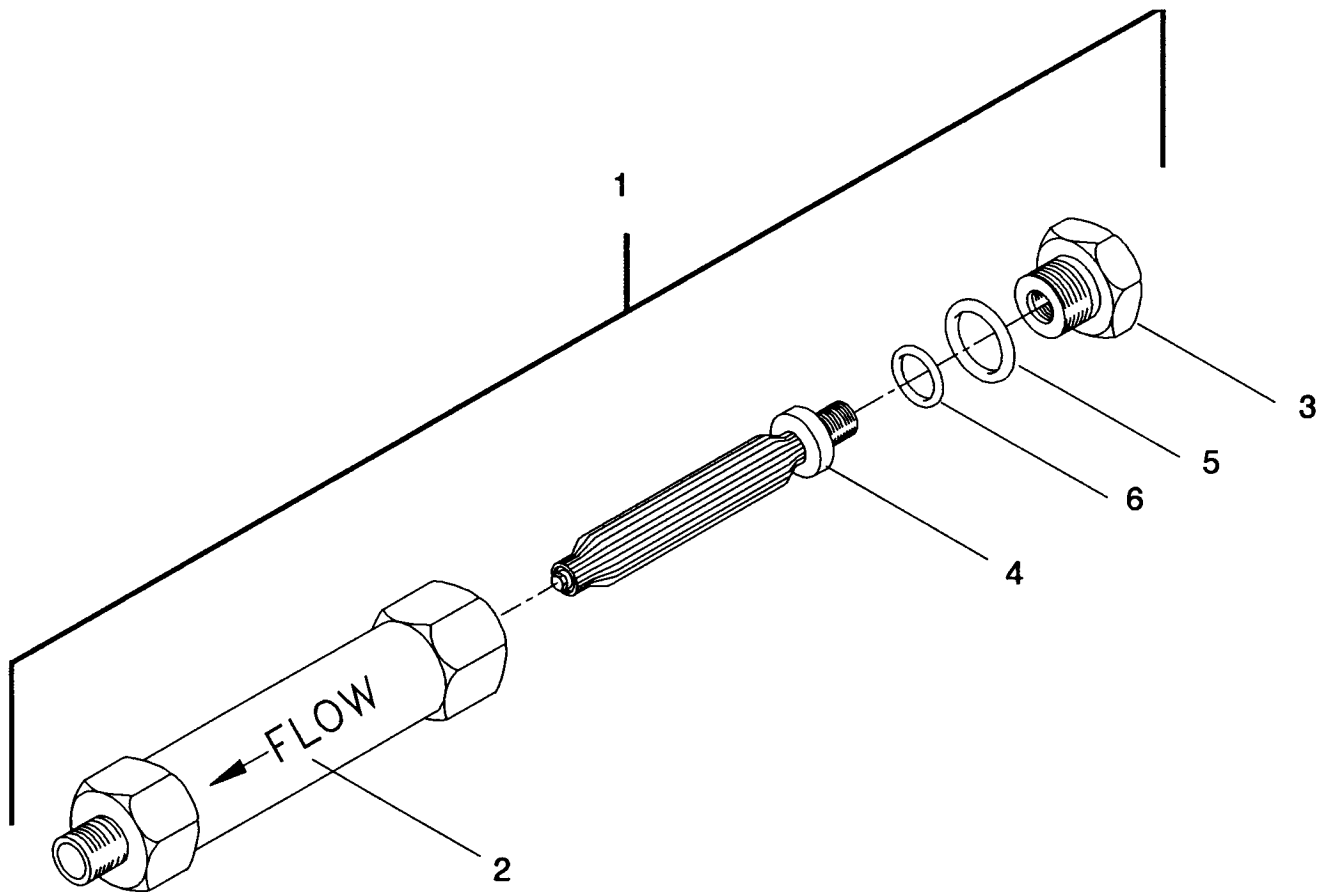

Figure 5-14. High Pressure Filter (Primary) (Item 1)
5-15. Primary High Pressure (HP) Filter (CRS). See Figure 5-14.